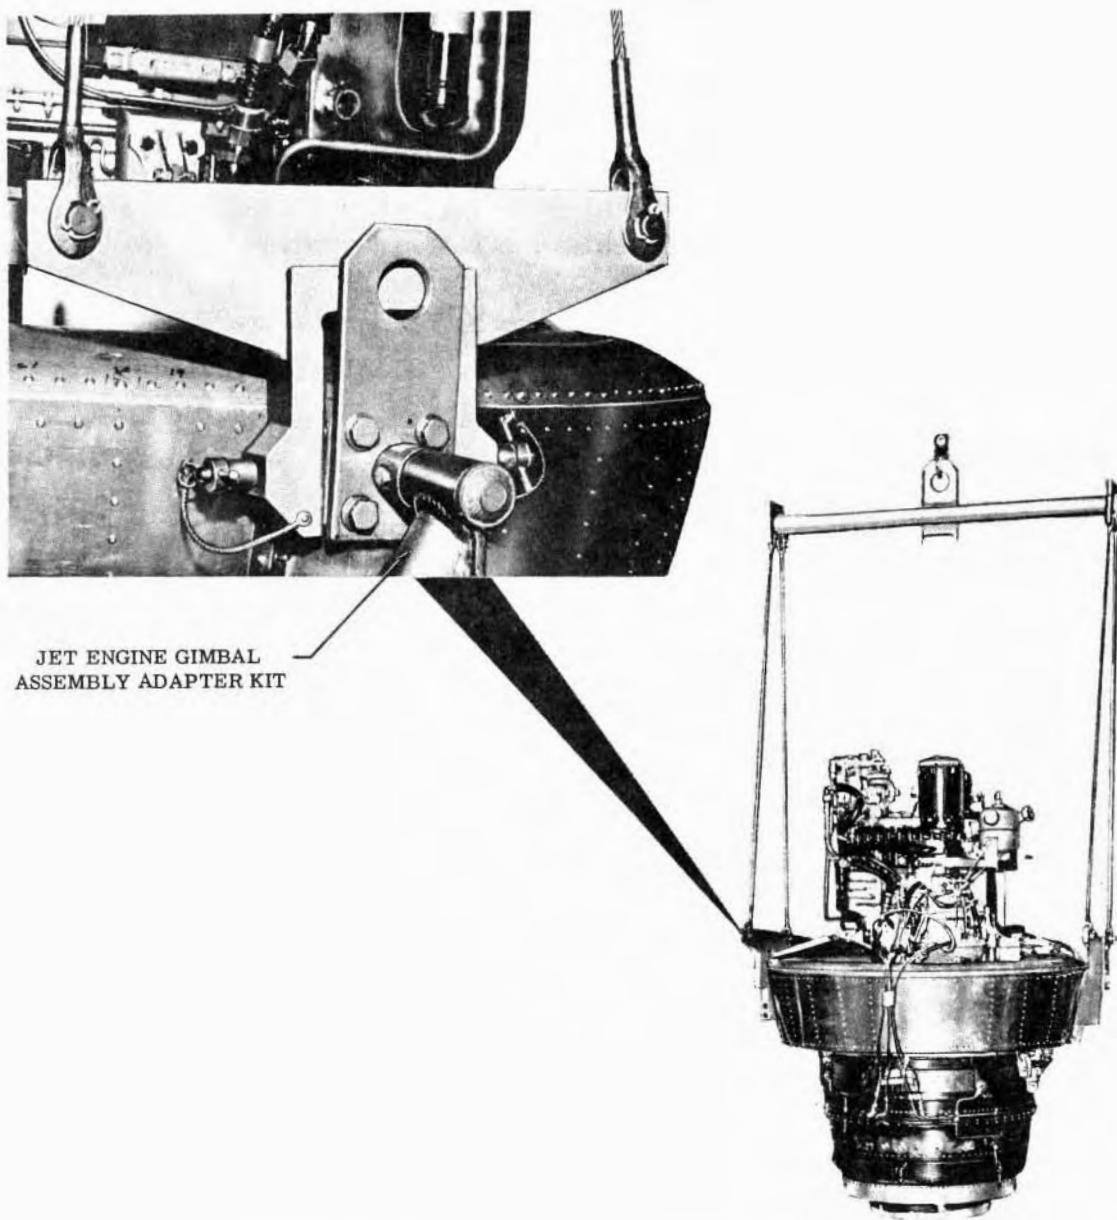

Figure 6-5 Jet Engine Vertical Hoist Sling Attachment
- C. Attach the lift ring of the jet engine vertical hoist sling to an overhead hoisting device (chain fall), having a hook height of at least 22 feet, and attach the hoist adapters to the engine mount pivot fittings. (Refer to figure 6-5).